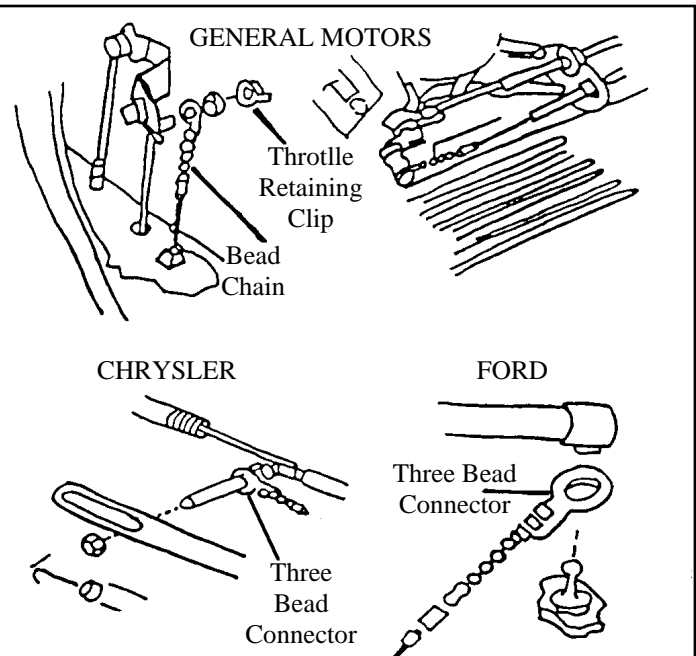

FIGURE 15
1. Most General Motors vehicles and many Chrysler vehicles can use the **Three Bead Connector** to attach the **Cable Assembly**. (**Figure 15**)